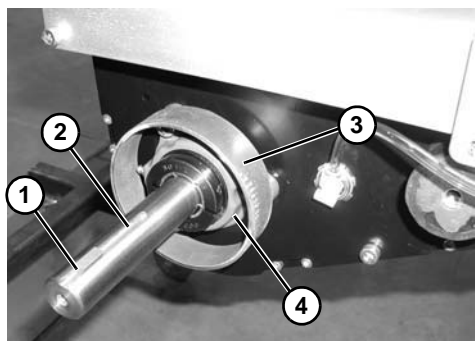

Figure 27
3. Install key (**Figure 27, item 1**) on drive shaft (**Figure 27, item 2**). Install cover (**Figure 27, item 3**) over bearing housing (**Figure 27, item 4**).